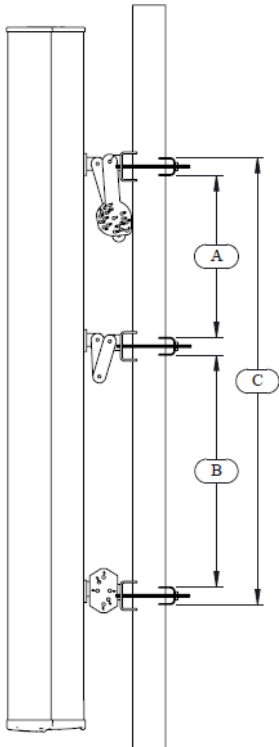

Figure 4: Bracket heights for MX/MC
7. Use measurements from *Table 1* and *Figure 4* to determine the distances between brackets.